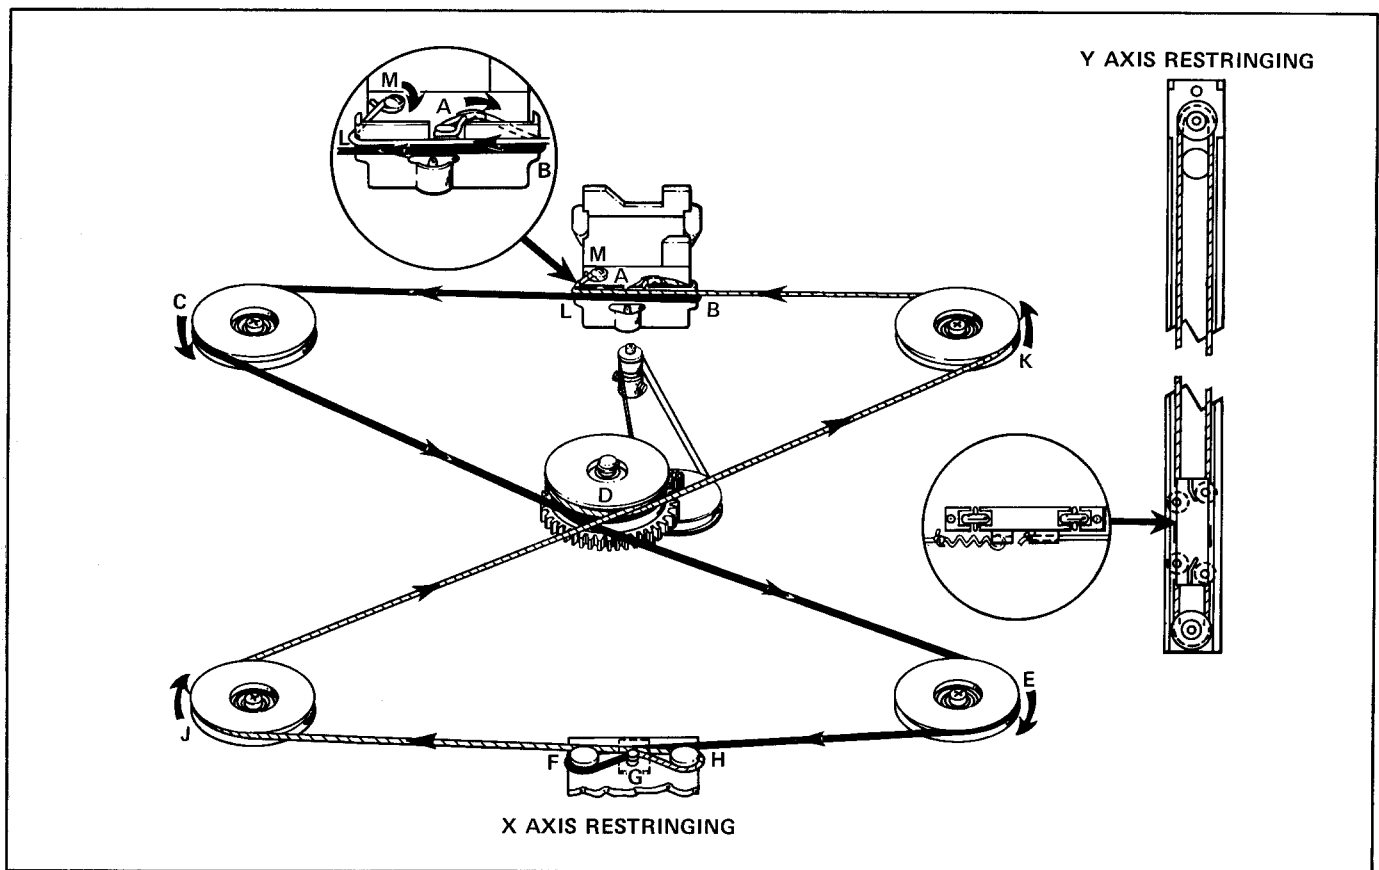

FIGURE 3-10. X AND Y AXES RESTRINGING
3-27. RESTRINGING PROCEDURE. (Refer to Figure 3-10.)
3-31. **RESTRINGING PROCEDURE.** (Refer to Figure 3-10.)
- b. Remove old cable and adjust bottom two pulleys (J and E, Figure 3-10) to their innermost position.